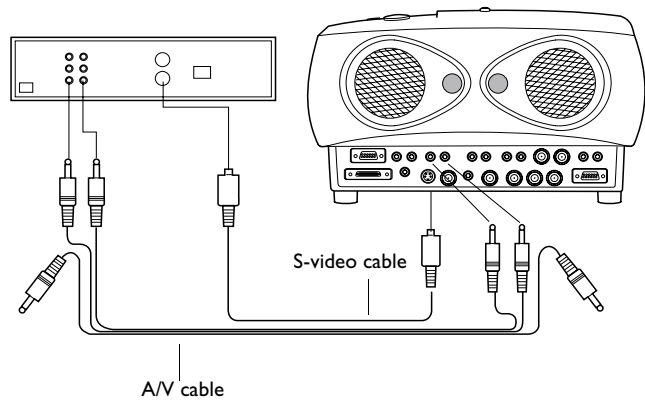

FIGURE 12
- If you're using an S-video cable, connect it to the "s-video out" connector on the video player. If you're using a BNC cable, connect it to the BNC connector on the video player (Figure 12).
- If you're using S-video or BNC, plug the other end of the cable into the "S-VID" or "BNC" connector on the projector (Figure 12).
- If you're using an S-video or BNC cable, the yellow connectors on the A/V cable remain unused (Figure 12).